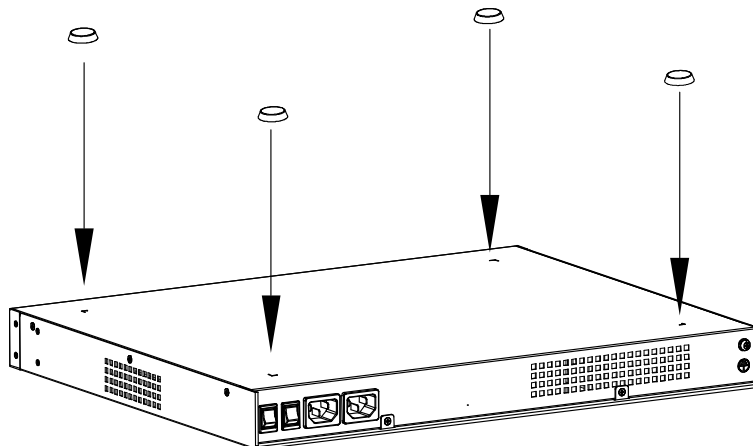

Figure 3-1: Installing the Feet Plaster
Step 2: Press the sticky side of the feet to the right-angle die-pressed mark on the bottom panel of the chassis. See Figure 3-1.